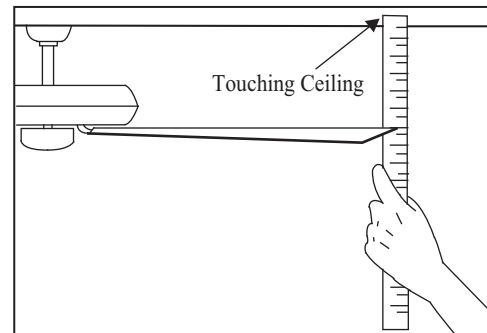

Figure 17
2. Most fan wobble problems are caused when blade levels are unequal. Check this level by selecting a point on the ceiling above the tip of one of the blades. Measure from a point on the center of each blade to the point on the ceiling. Measure this distance as shown in Figure 17. Rotate the fan until the next blade is positioned for measurement. Repeat for each blade. Measurements deviation should be within 1/8". Run the fan for 10 Minutes.